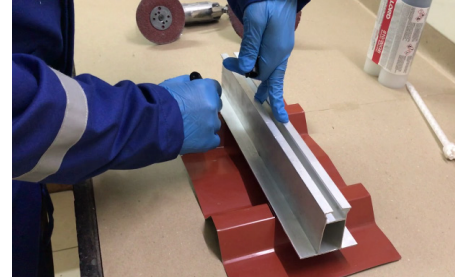

Figure 1. Mark application (bondline) area on metal roof using marker
1. Place bracket to be bonded on metal roof, and mark area where bracket will be attached (see Figure 1).